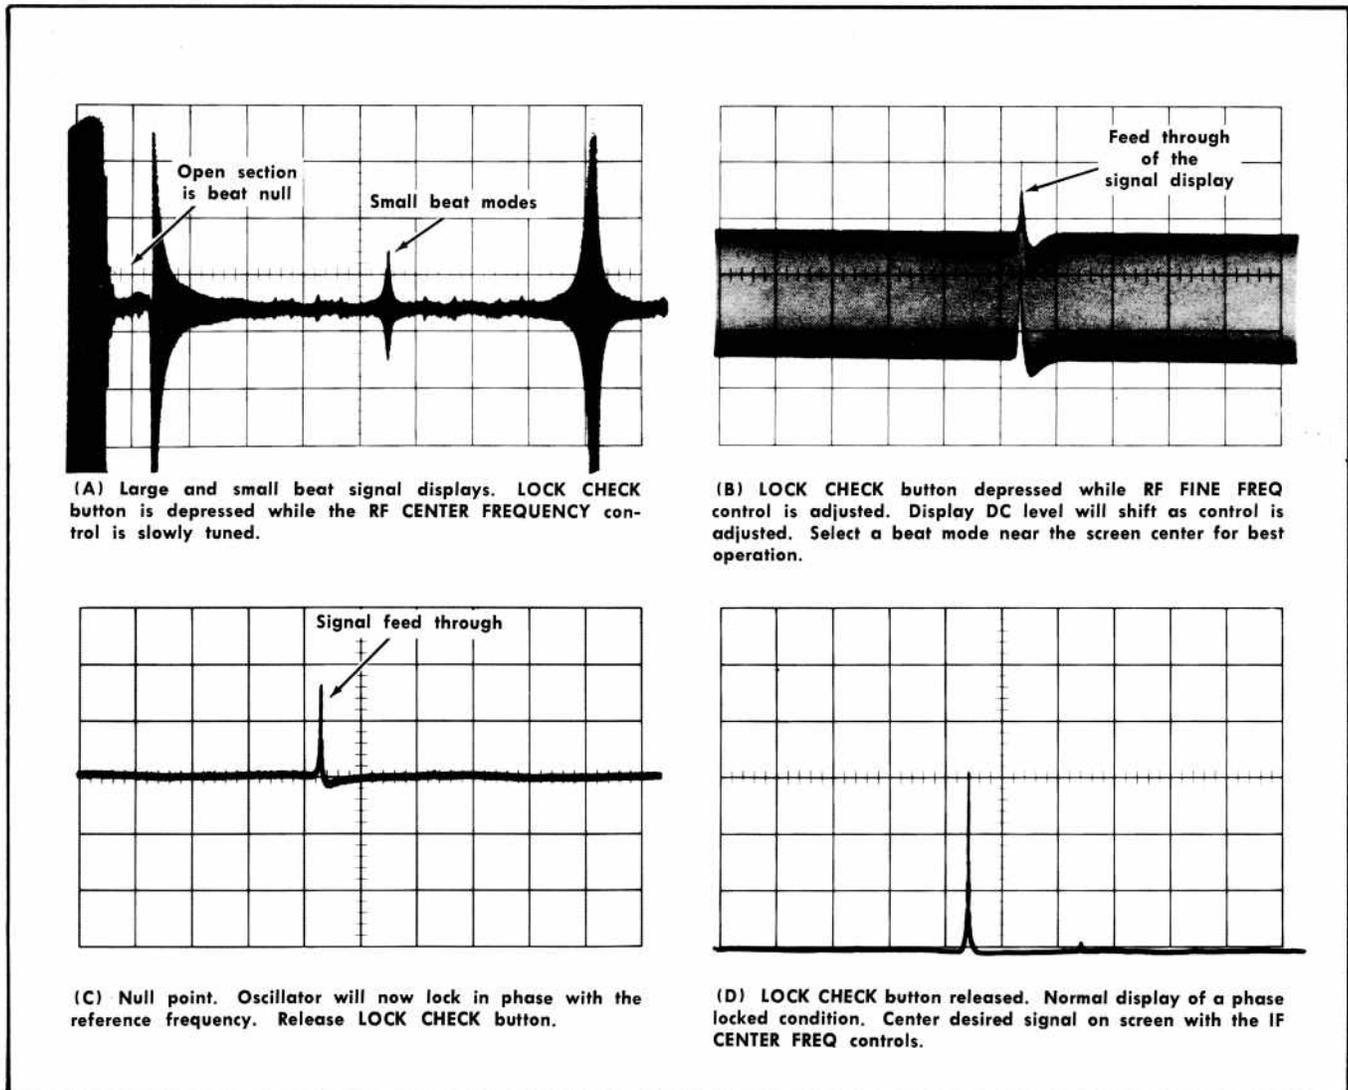

Fig. 2-6. Lock check displays
15. Push the LOCK CHECK button and turn the RF CENTER FREQ control slowly through the signal frequency. Note the phase lock beat signals between the tunable local oscillator and the Internal Reference Frequency oscillator as the display blooms then snaps into the phase lock operation (Fig. 2-6). See Phase Lock Operation on page 2.
signal is outside the linear operating range of the amplifier (baseline of display at the top or bottom of the graticule), center the display with the FINE RF CENTER FREQ control then adjust the RF CENTER FREQ control to shift the signal towards a beat mode (Fig. 2-6). Adjust the FINE RF CENTER FREQ control, while observing the desired signal, for phase lock operation then release the LOCK CHECK button.